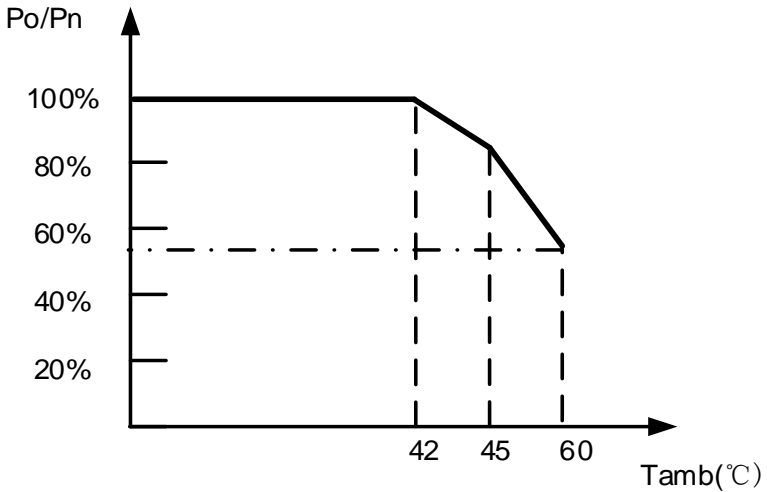

Figure 9-3 Derating curve with high temperature
- When the ambient temperature is higher than 42°C, the inverter output power will begin to derate, as shown in Figure 9-3.